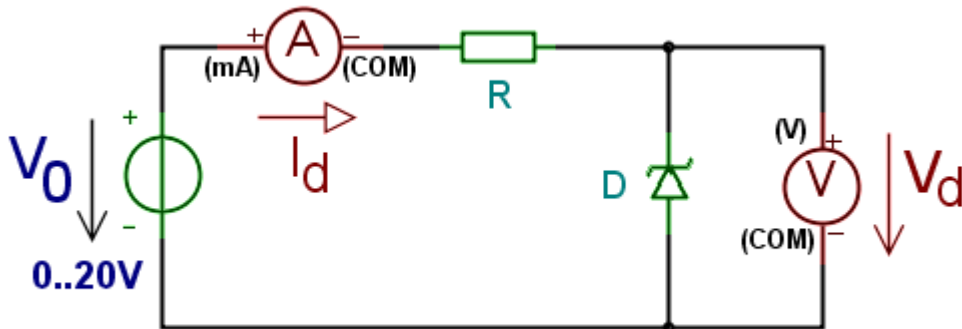

Figure 2.3: Measurement circuit for reverse characteristics of Zener-diodes
2.2.1 Build the circuit according to *figure 2.3* to measure the Zener-diode **BZX5V1**. The type name shows us that it has 5.1V breakdown voltage. Therefore we are going to measure in more detail around this value. The circuit is similar to the previous, except the Z-diode is connected in reverse. **R** is still **1kΩ**. (Note that the forward characteristics of Zener-diodes are similar to normal diodes, also these are not used in that region, therefore we are not measuring it in greater detail, only in a few points.)